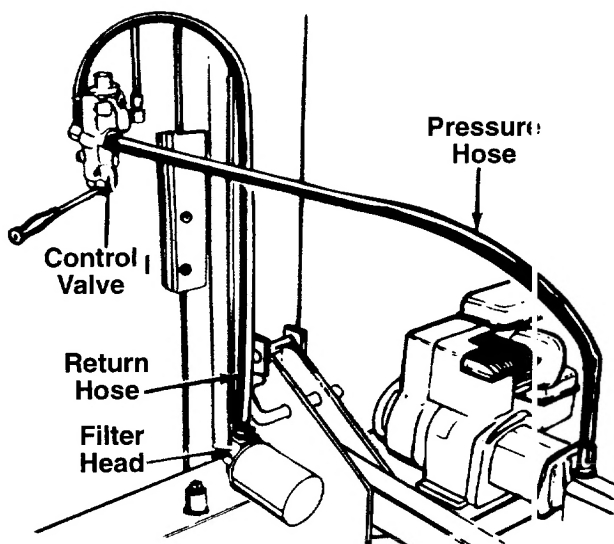

FIGURE 10.
2. Remove the protective cap from the fitting on top of the filter head. Attach the end of the hose to the fitting on top of the filter head. See figure 10. Place the hose clamp at the base of the fitting, and tighten securely.
The pressure hose is attached to the top of the valve. Route the hose as shown in figure 10. Secure the pressure hose to the bottom of the pump, using two wrenches.